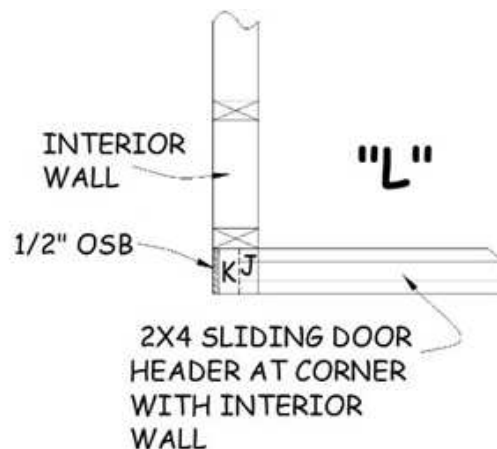

Figure 3-10. Interior L-Corner in Flush Sliding Door.
4. Referring to the House Plan, check for flush sliding closet walls that end at an inside corner of the closet (typically adjoining the 25” closet end wall). Similar to a plumbing wall, lay out the end of the flush sliding wall with a 3½” sandwich of Jack stud, King stud, and ½” of OSB (see Figure 3-10).
- a. The short wall next to the tub/shower will typically be 36" long. As usual, layout studs on 24" centers starting at the intersecting wall. At the opposite end, layout a 2x4-2x6 L-corner similar to that shown in Figure 3-10, with the 2x6 base of the L on the surface facing the tub. This will provide vertical blocking to which the shower flange can be attached, 31½" from the wall.